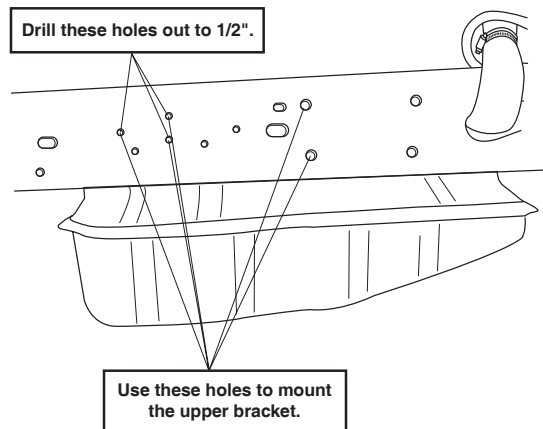

Figure 7
1. Attach the upper brackets to the side of the frame using the existing holes and the supplied $\frac{1}{2}$ " bolts, washers, and nyloc nuts (Figure 7). Tighten securely.